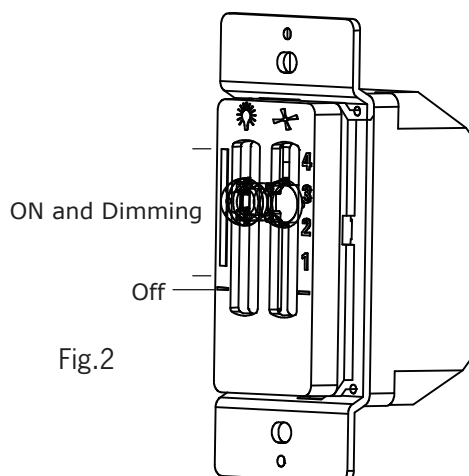

Fig.2
**Note:** Before installing the wall transmitter, place it in OFF position. (Fig.2)
This wall controller provides 4 fan speeds, light on/off and light dimming control.(Fig.2)